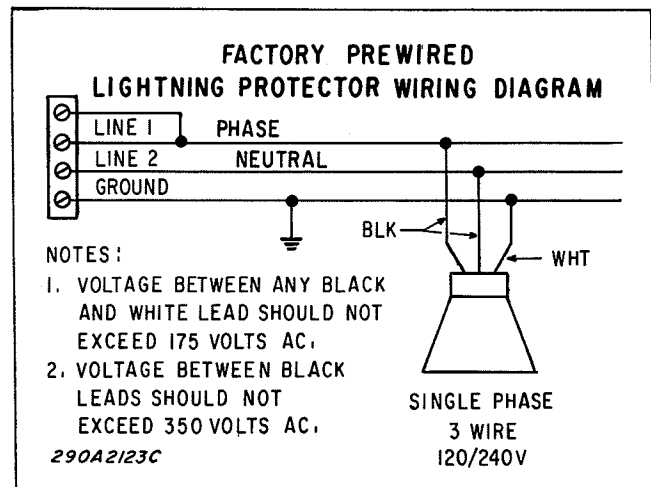

Figure 4-4. Lightning Protector Wiring Diagram.
4. Connect the power wires and lightning protector (see figure 4-4) to the terminal strip in the Control Unit.